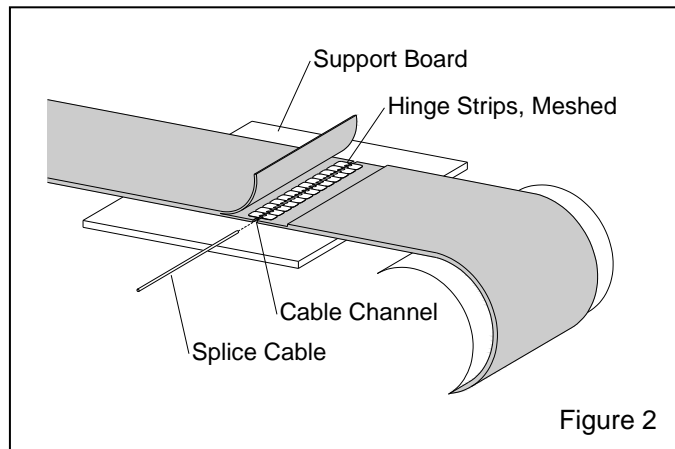

Figure 2
**4.3.5 Splice Belt, Refer to Figure 2**
**4.3.5.1** Place a board or similar object over the top of the frame as shown in Figure 2. The board will be a temporary work surface to complete the splice.